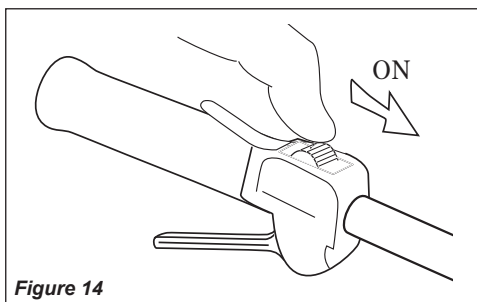

Figure 14
1. Slide the ignition switch to the "I" position. See Figure 14.